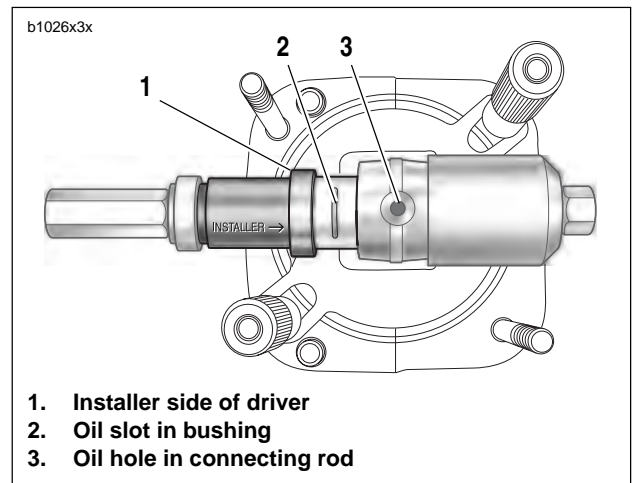

Figure 3-105. Installing New Wrist Pin Bushing
6. See Figure 3-105. Place **new** bushing between connecting rod and driver.